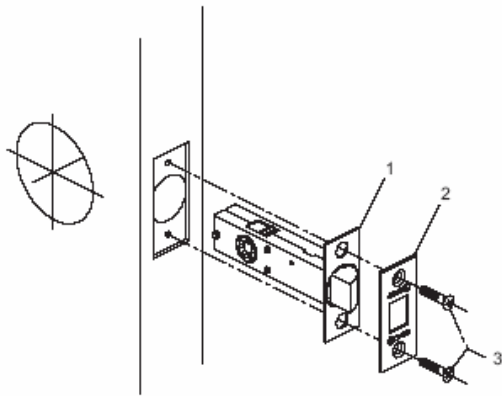

Figure 1
- 1 - Insert latch [1] into 1 inch edge bore. Place face plate [2] over latch bolt and secure with 2 wood screws [3], as shown on figure 1.